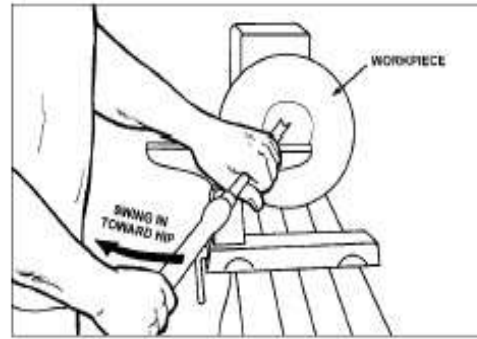

FIG.14
Stock for spindles should be straight grained and free of checks, cracks, knots and other defects. It should be cut 1/8" to 1/4" larger than the finished diameter and may require additional length to remove ends if required. Larger stock should have the corners removed to produce an octagon making the piece easier to rough down to a cylinder, see Figure 14.
5. Place 1/2" bowl gouge on tool rest at center of the workpiece with the flute facing top of bowl. The tool handle should be level and pointed toward four o'clock, see Figure 14.